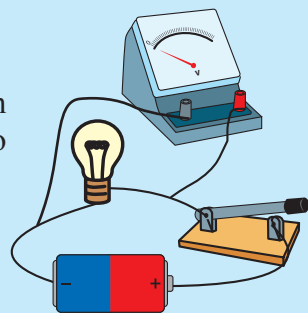

Figure 10.1 ▲
- First connect one dry cell with the bulb and the switch as shown in Figure 10.1. Connect the voltmeter to measure the voltage across the bulb.
Circuit in Figure 10.1
It can be observed that the brightness of bulb increases when the cells are connected as in Figure 10.1, 10.2 and 10.3 respectively. When the number of cells are increased, the voltage is increased, hence the current is also increased.